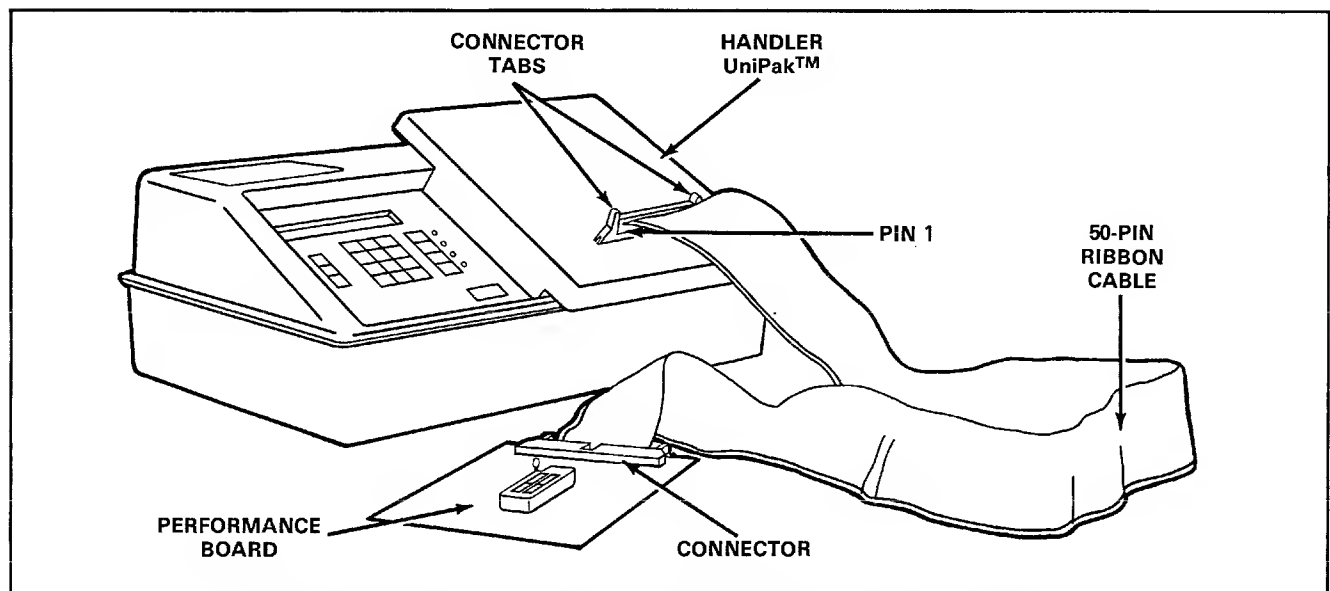

Figure C-4. Connecting the Handler UniPak™ and Performance Board
To set up the 29B/handler system, refer to figures C-4
1. Ensure that the connector tabs on the top of the Handler UniPak™ are snapped out (see figure C-4).
4. Ensure that the connector tabs on the performance board are snapped out (see figure C-4).